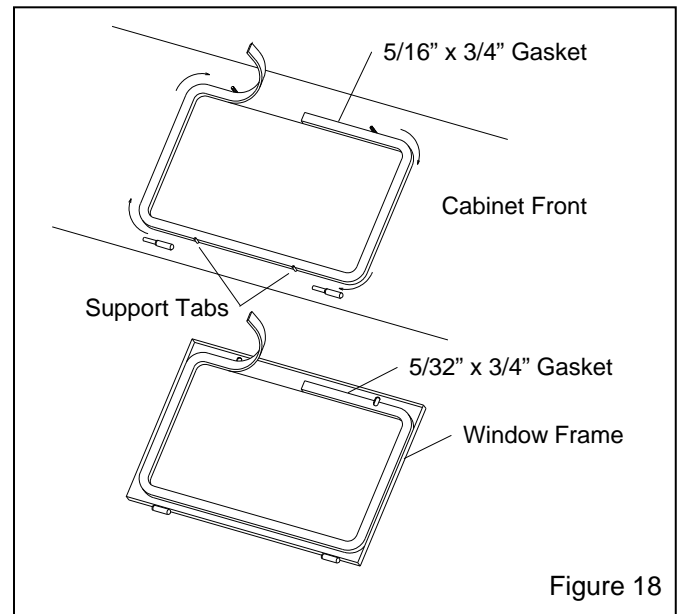

Figure 18
## 7.4 Window Gasket Replacement, Figure 18
**7.4.4** Peel a short section of adhesive backing from the 5/16"-thick strip gasket, and adhere the gasket to the center of the top edge of the window opening as shown in Figure 18. Peel additional backing as needed, and work the strip around the radius of each corner, pressing it firmly to bond. Trim the gasket to fit and compress the ends to seal.